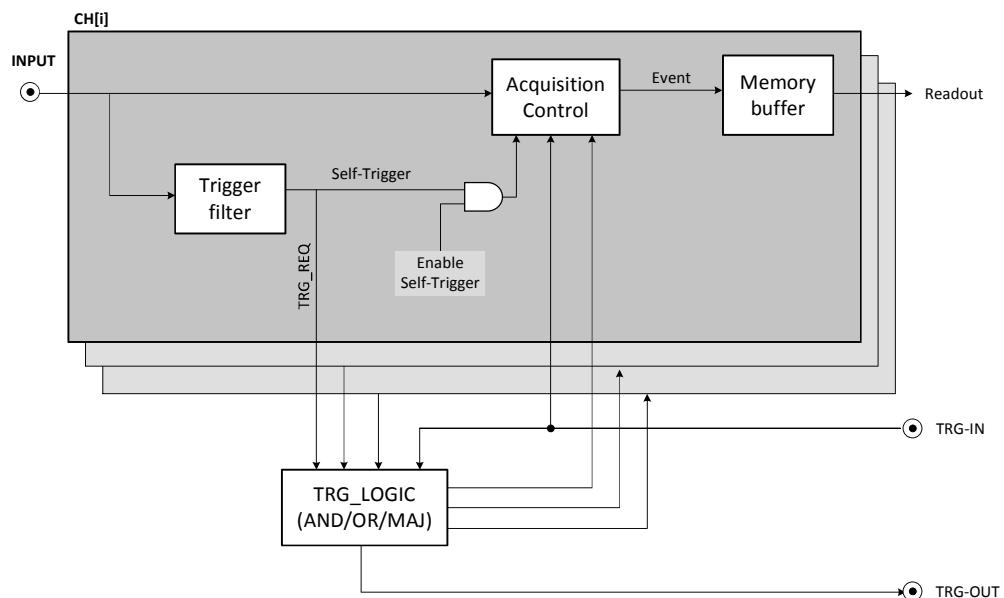

Fig. 2.4: Diagram showing the structure of the trigger management of the DPP-CI firmware
- 2) each channel triggers independently, then only those events satisfying programmable conditions are saved. Referring to Fig. 2.4: the TRG_LOGIC can combine (AND/OR/MAJ) the trigger request (TRG_REQ) from each self-trigger. When the logic condition is met, a trigger validation (TRG_VAL) is sent back to each channel individually to enable the acquisition of that event. Events not receiving a TRG_VAL signal are discarded. This technique allows to make coincidence and anti-coincidence requests among different channels (refer to [RD4] for further details);